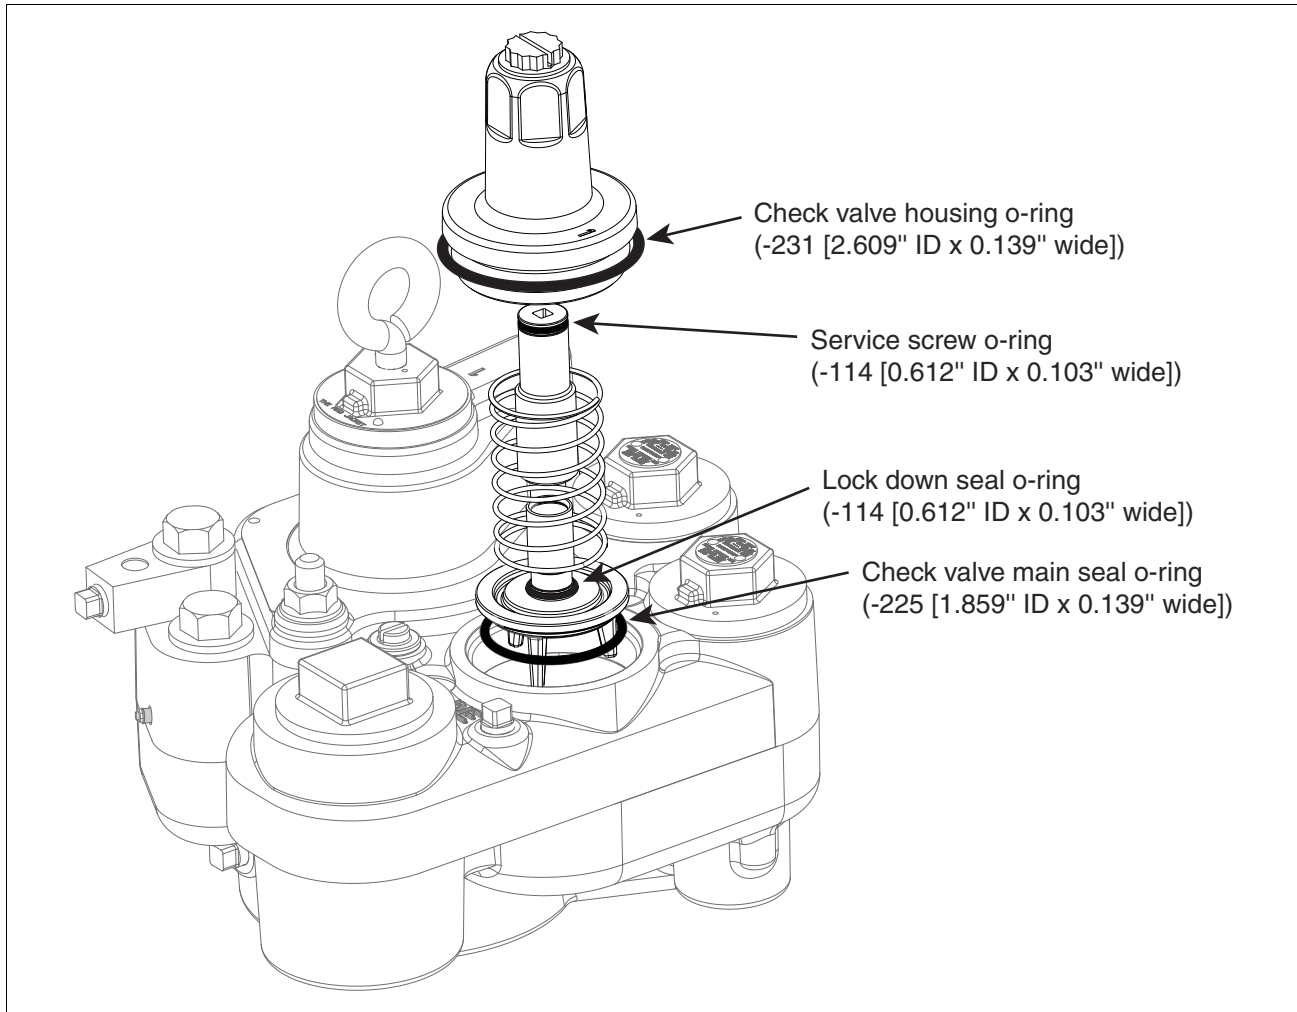

Figure 30. Inserting Check Valve Assembly Into Manifold
6. With its lubricated O-ring in place, insert the check valve onto its seat in the manifold, and place the new spring over the check valve (see Figure 30). Place the check valve housing with O-ring over the spring and check valve and screw it in hand tight. Torque the housing to 40 - 50 ft-lbs (54 - 67 N•m).